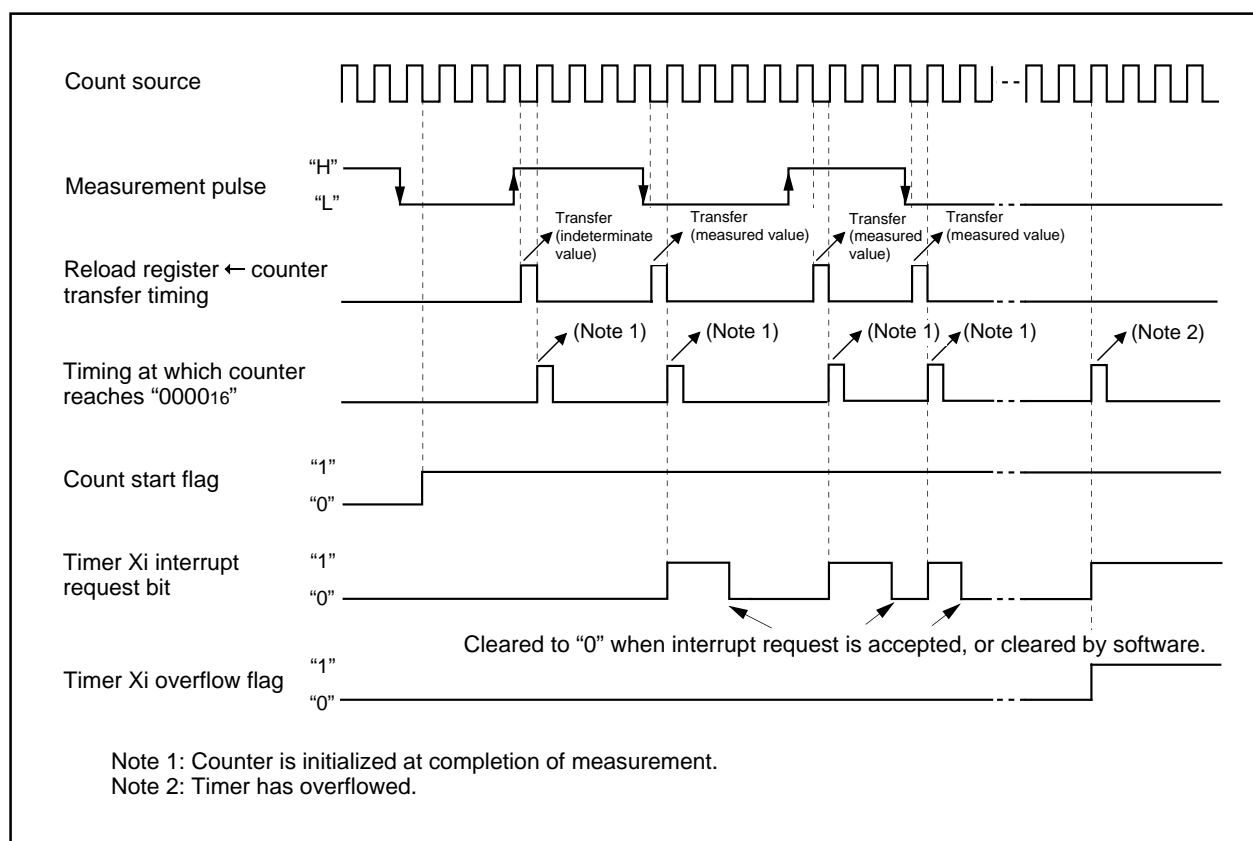

Figure 1.65. Operation timing when measuring a pulse width
1.64 shows the operation timing when measuring a pulse period. Figure 1.65 shows the operation timing
The clock synchronous serial I/O mode uses a transfer clock to transmit and receive data. (See Table 1.25.) Figure 1.65 shows the UART0 transmit/receive mode register.